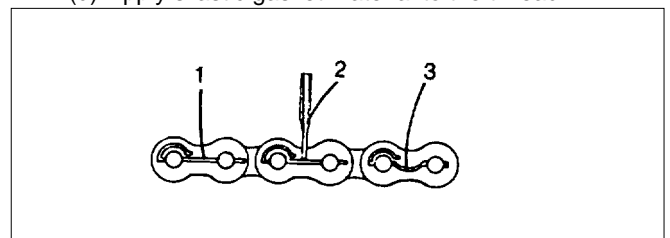

Fig. 4
- (b) Connecting links are held with an oil field type cotter. The cotter goes through both pins of the coupling link. The cotter holds better during high speed operation than separate cotters in each pin would. Insert the cotter as shown in Fig. 4. Bend the cotter between the pins with a punch and a hammer. This holds the cotter in place.